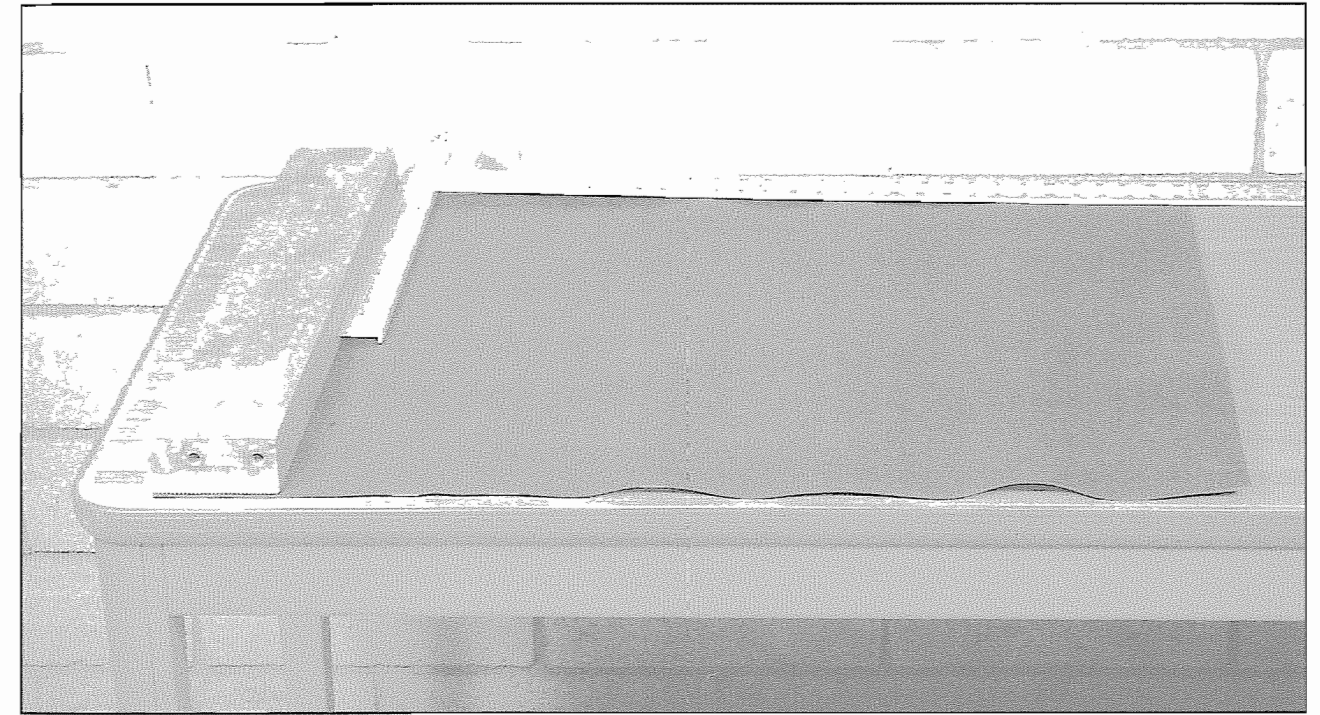

Figure 8-22. The rolling setup for large tubes. A vinyl pad forms the work surface. A large metal block and a dry wall square are used to align the paper.
3. Lay the vinyl pad on a flat, washable surface. Lay the large metal block on the vinyl, and lay the dry wall square against the block (*Figure 8-22*).